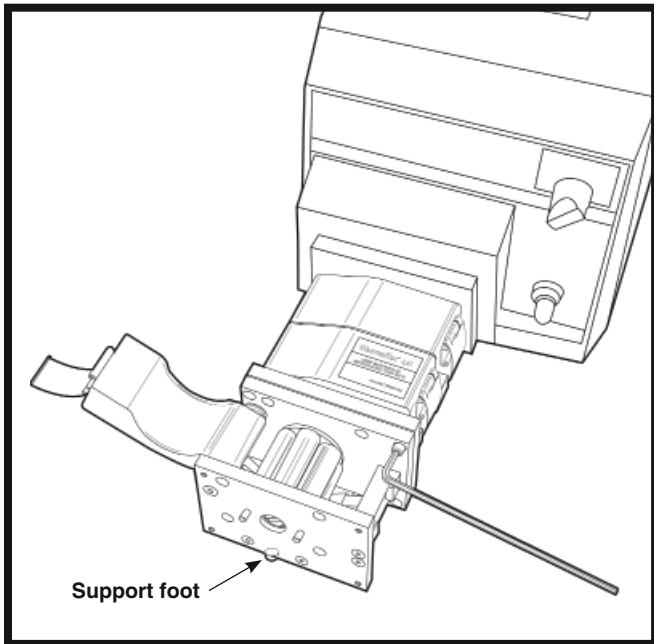

Figure 3. Stacking Pump Heads
4. Fasten the Pump Heads together with the four screws (provided) using the holes in the four corners of the pumps (Figure 3).